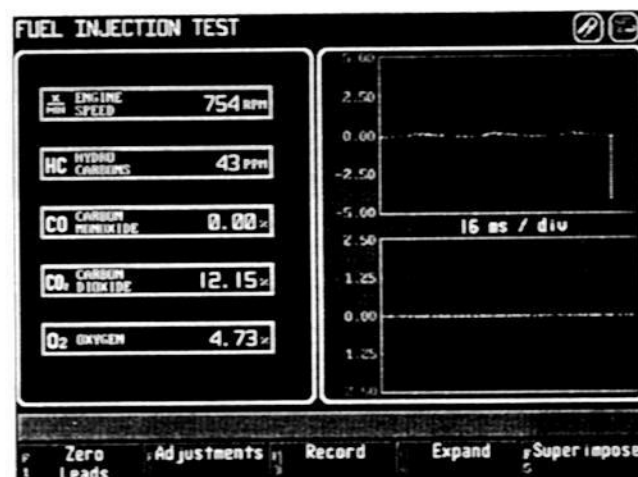

Figure 3-15
- [F2] – to display the analysis screen (see Figure 3-15);
5. Figure 3-15 shows the analysis screen.